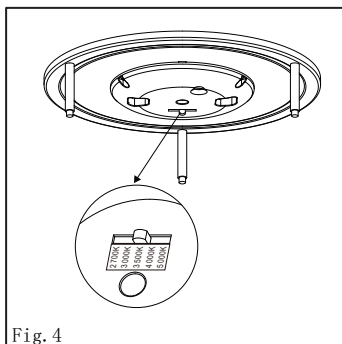

Fig. 4
4. Slide the switch and select the color desired. (Fig.4)